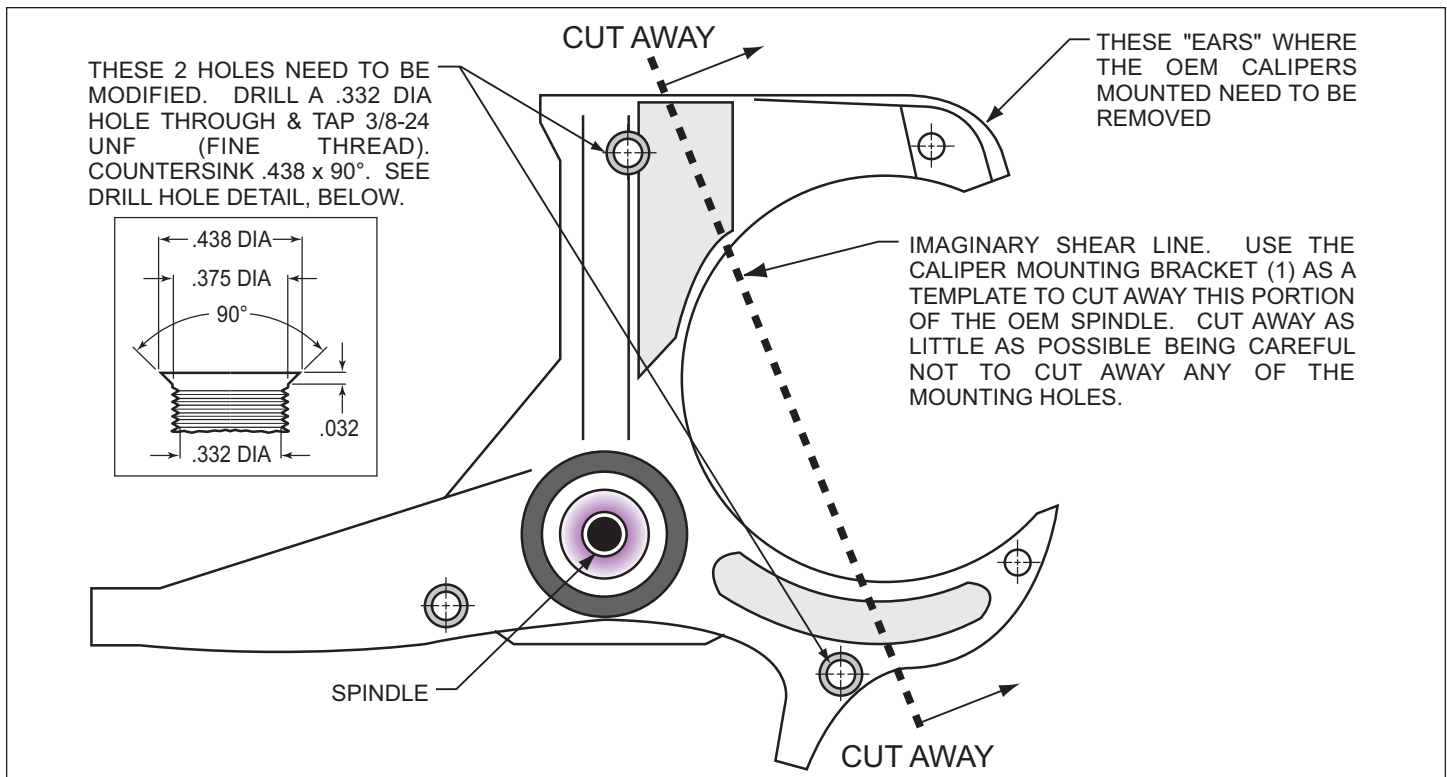
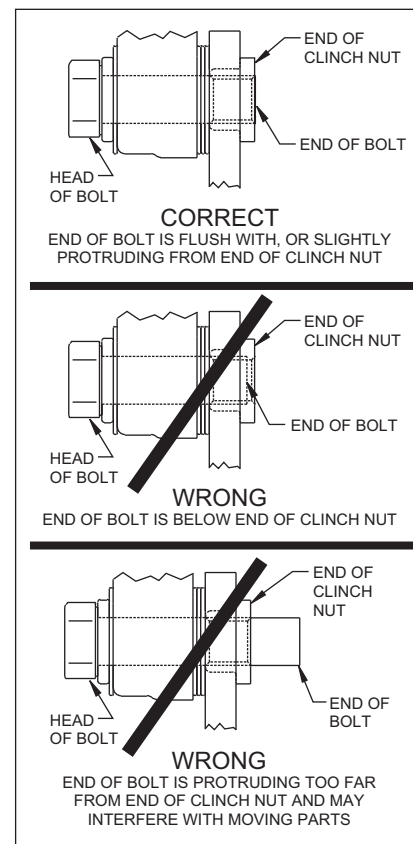

Figure 1. Steering Arm / Spindle Modifications
Figure 4.
These modifications should be performed by a qualified machinist. Refer to Figure 1 on the following page as necessary (numbers in parenthesis refer to the parts list on page three). Only one view of the steering arm/spindle is shown, but the modifications need to be performed on both steering arm/spindles.
- Orient the rotor (9) and the rotor adapter (8) as shown in Figure 1. Attach the rotor to the adapter using bolts (10). Using an alternating sequence, apply red *Loctite*® 271 to the threads, and torque to 25 ft-lb.
- Mount the adapter/rotor assembly (8/9) to the hub (5) using bolts (11), as shown in Figure 1. Using an alternating sequence, apply red *Loctite*® 271 to the threads, and torque to 55 ft-lb.
- Pack the small outer bearing cone (12) with high temperature disc brake bearing grease and install into front of hub (5). Slide the hub/rotor assembly (5 and 9) with outer bearing cone (12) onto the spindle. Secure using supplied washer (13), original adjusting nut and nut locking device.
- Install the dust cap (15) onto the hub (5). Friction created by the o-ring (14) on the dust cap (15) keeps it from unscrewing. The O.D. of the existing spindle washer may be larger than the I.D. of the dust cap (15) not allowing it to seat against the hub face. Therefore, use the spindle washer (13) supplied with the kit instead of the stock washer.
- NOTE:** Please reference the caution statement at the beginning of the assembly instructions. This kit contains distinct right and left hand calipers that must be mounted in a specific direction, as described below. Mount the caliper (16) onto the caliper bracket (1) using bolts (18) and washers (17), as shown in Figure 1. Initially place two .032" thick shims (19) on each bolt between the caliper and the bracket. Ensure that the caliper is mounted so the largest pistons are at the rotor exit end of the caliper, in relation to the direction of rotor rotation. Temporarily tighten the mounting bolts and view the rotor (9) through the top opening of the caliper. The rotor should be centered in the caliper. If not, adjust by adding or subtracting shims (19) between the bracket and the caliper. Always use the same amount of shims on each of the two mounting bolts. **NOTE:** The end of the bolt must be flush with or slightly protruding from the head of the clinch nut in the bracket. If necessary, place spare shims between the washer and the caliper mounting ear to achieve the proper clinch nut engagement, as shown in Figure 4. Once the caliper alignment and clinch nut engagement are correct, remove the bolts one at a time, apply red *Loctite*® 271 to the threads, and torque to 40 ft-lb.
- Install the disc brake pads (20) into the caliper (16). Secure the disc brake pads to the caliper utilizing the pad clip retainer (21).